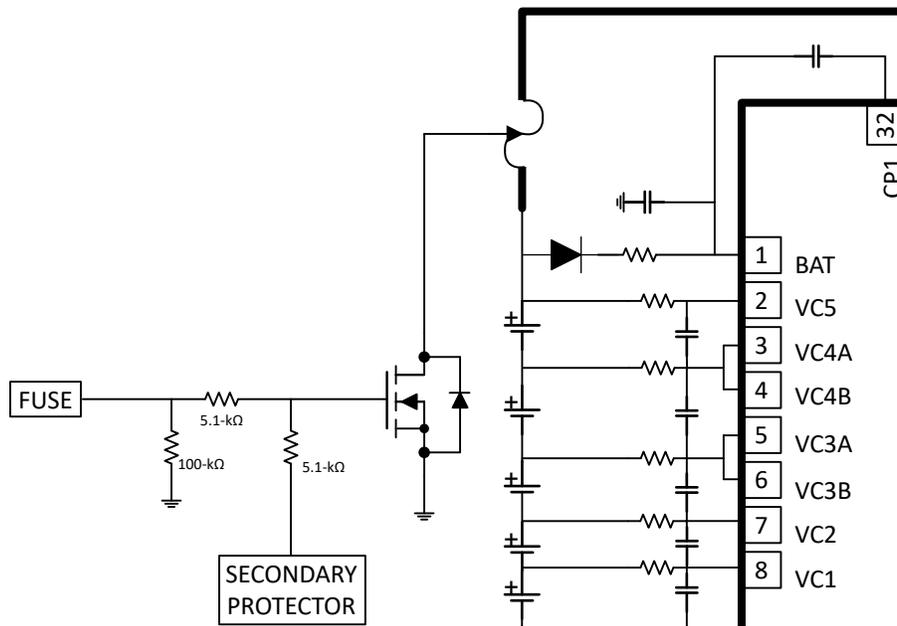

Figure 6-1. FUSE pin operation
The FUSE pin on the BQ76922 device can be used to blow a chemical fuse in the presence of a Permanent Fail (PF), as well as to detect if an external secondary protector in the system has detected a fault and is attempting to blow the fuse itself. The pin is intended to drive the gate of an NFET, which can be combined with the drive from an external secondary protector, as shown in Figure 6-1. When the FUSE pin is not being asserted by the BQ76922 device, it remains in a high-impedance state and will detect a voltage applied at the pin by a secondary protector. If the Second Level Protector PF is enabled (using the **Settings:Permanent Failure:Enabled PF B[2LVL]** and **Settings:Manufacturing:Mfg Status Init[PF_EN]** configuration bits), a PF will be generated if the device detects a high signal at the FUSE pin.